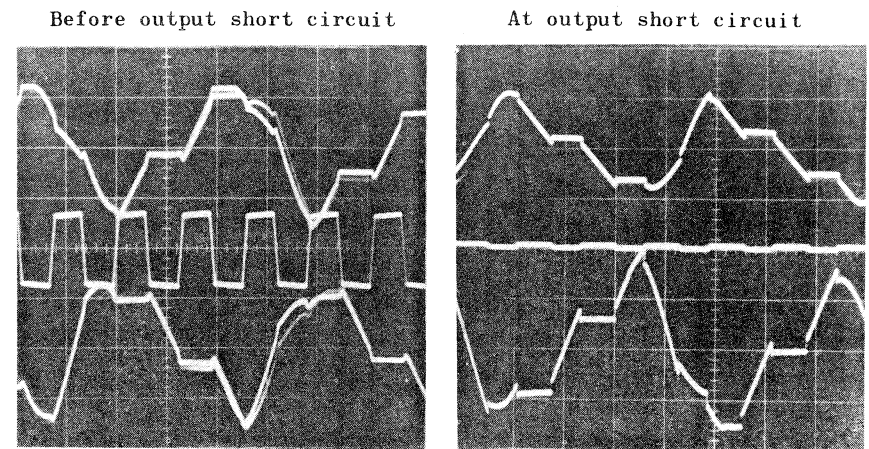

Fig.62
When the speaker output is grounded (earthed), the short-circuit current flows through R428 (0.47Ω). Supposing this current to be 2.6 A, a voltage of 1.2 VRMS ($0.47 \Omega \times 2.6 \text{ A} = 1.2 \text{ V}$) generates at both terminals of R428, and since Q406 is not turned to ON, this voltage gets divided in R427 and R456, causing the current to flow to the base of Q405 and turning Q405 to ON. This grounds the pin ⑨ of Q402 and distributes the base current of IC driver, and thus the output current of IC is controlled (limited) to 2.6 A. Fig. 62 shows the power source and signal curves when output is shorted. The points of measurement are the pin ⑧ of Q402 at positive side of the power source (0.5 V/DIV) in the case of upper curve, the pin ⑦ of Q402 at 400 Hz signal (VOL-MAX) in the case of center curve and the pin ⑥ of Q402 at negative side of the power source (0.5 V/DIV) in the case of lower curve.
The power current at one side, with the input 40 dB VOL-MAX (22 VRMS - 8Ω), is 1.2 A AC (and is 0.8 A AC at the rated value of 14 V RMS- 8Ω). Here, if both terminals of the load (8Ω) are shorted, the sound output (actually of 1.2 V RMS) gets virtually reduced to zero, as shown in the right-hand-side of Fig. 62, with the power current at one side in this case being 1.3 A. Furthermore, there is no change in the power ripple. In other words, the power current is controlled to 1.3 A by means of the safety circuit, which activates and controls the output current of the pin ⑦ of Q402. Hence, the IC is safe from getting heated up and the power source fuse does not break off even when both terminals (ends) of speaker are shorted by mistake.